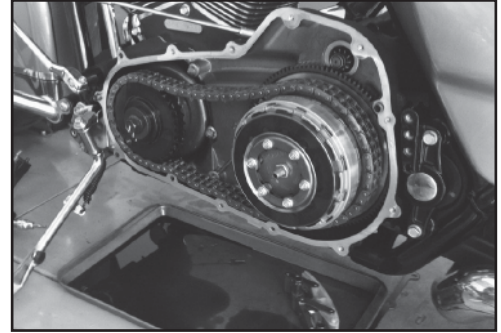

Figure 2
2. Remove the factory primary chain tensioner, along with any spacers that may be included on the back side. Keep the two stock bolts for the installation. See Figure 2.